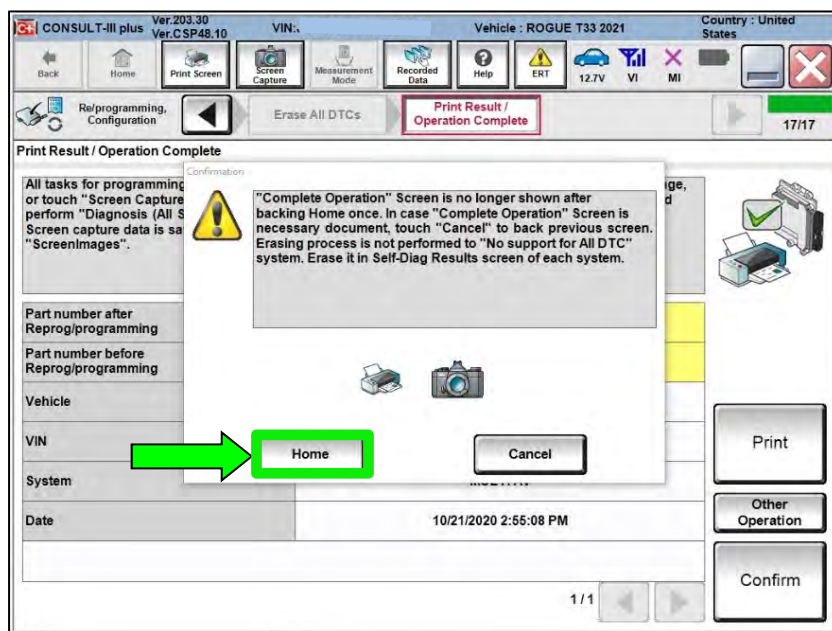

Figure 67
83. If the screen in Figure 67 displays, select **Home**. If the screen in Figure 67 does not display, skip to step 84 on page 36.